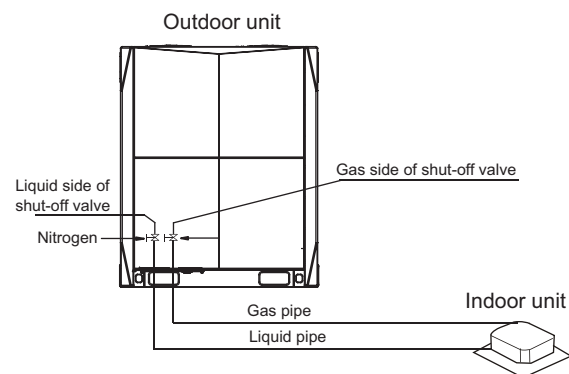

Fig. 5-5
- It is not allow to bring pressure on the float valve directly. (See Fig. 5-5)